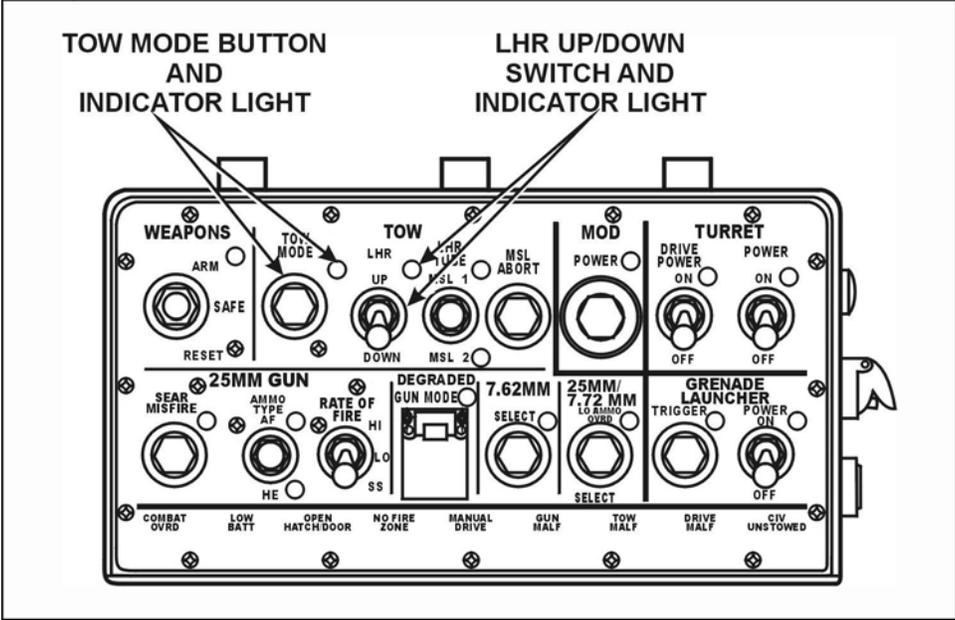

Figure 7. LHR UP/DOWN switch.
- (1) Move the Launcher UP/DOWN switch to the UP position (Figure 7).